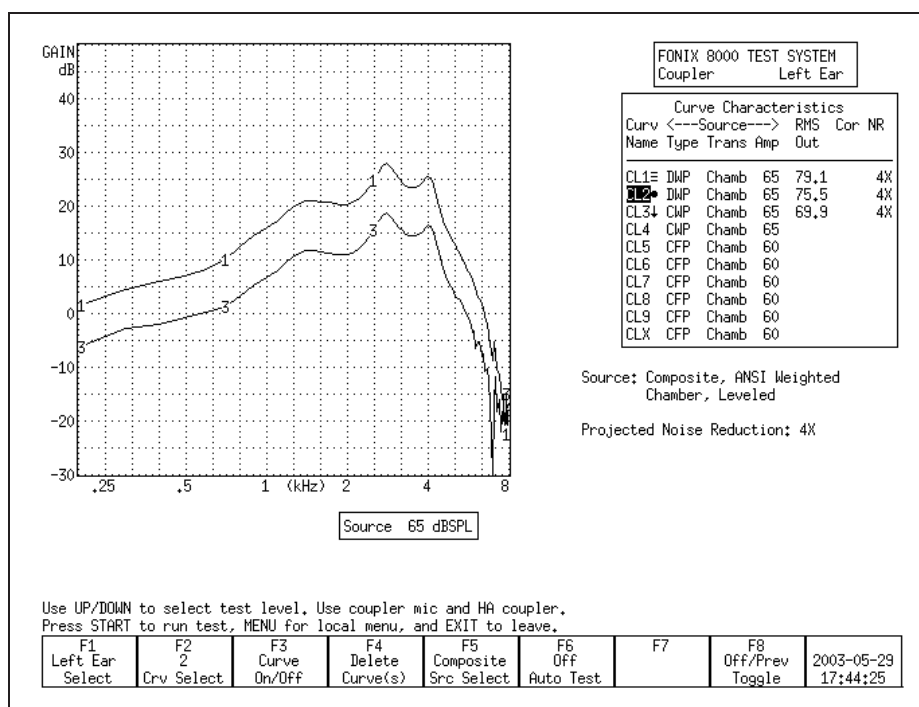

Figure 3.5.4—Digital Noise Suppression test. CRV 1 was measured with Digital Speech. CRV 2 was measured with the Composite signal.
11. Compare CRV 1 and CRV 2. If the curves are right on top of each other, the aid is responding to the Digital Speech signal just as it would respond to the Composite signal. This could be an indication that the digital suppression feature is either not enabled or not present on the hearing aid. Figure 3.5.4 gives an example of a hearing aid that is amplifying the Digital Speech signal and suppressing the Composite signal.